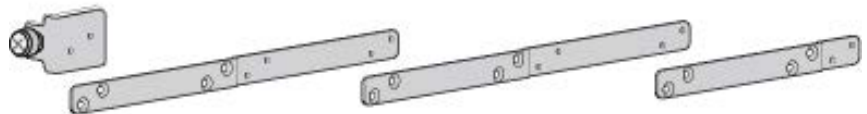

Figure 52. Extension Bracket Configurations
You adjust the lengths of the brackets by connecting them in different combinations. There are seven possible configurations. Refer to Figure 52. The default configuration is number 5. To adjust the extension brackets, perform the following procedure:
1. Review Figure 52 to find the bracket length that most closely matches the measurement taken in step 3 in the previous procedure.